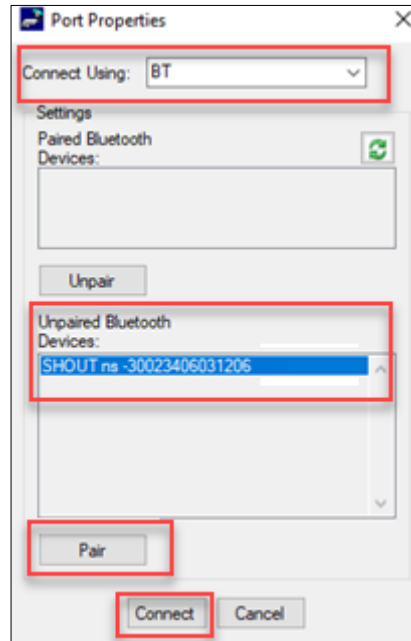

Figure 19: Port Properties
8. Select **BT** from the *Connect Using* drop down list (see **Figure 19**).